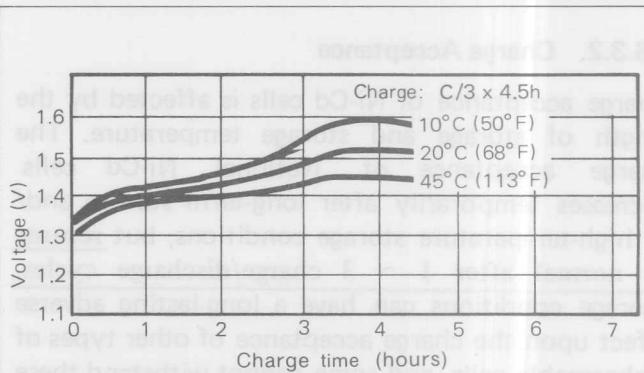

Fig. 7 Effect of temperature on quick charge
(C) Quick charging characteristics are shown in Fig. 7.